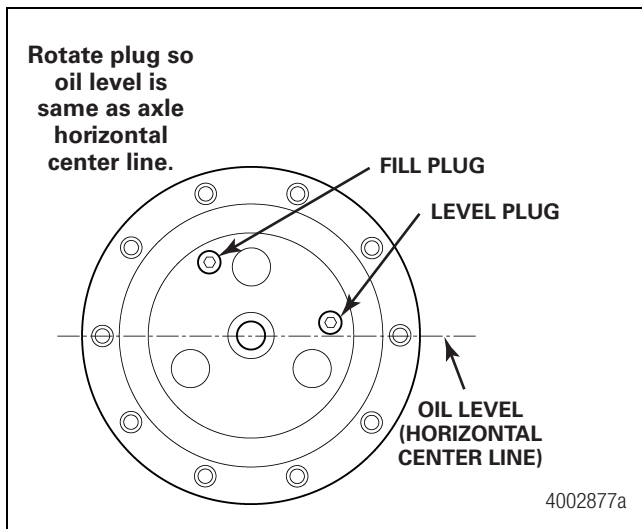

Figure 2.35
- **Original design wheel ends:** Rotate the wheel ends so the fill plug gives a level the same as the axle horizontal center line. Figure 2.35.